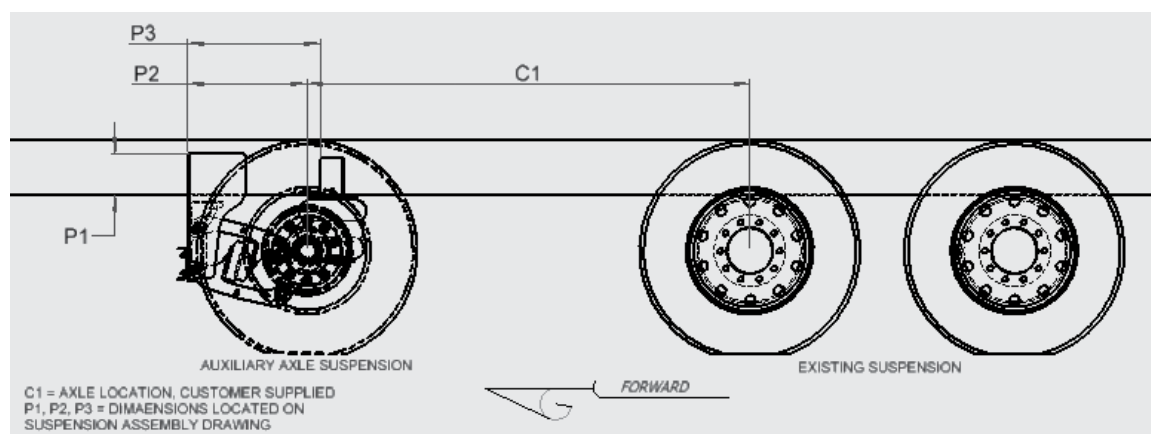

Figure 5. Suspension Mounting Position
4. Determine the location of the auxiliary axle mounting position on the outside of the vehicle frame rails. Refer to the suspension assembly drawing and mark the front edge of the auxiliary suspension side rails on the vehicle frame. (See Figure 5)
6. Before any modifications to the hanger are made, contact Engineering at (800) 660-2843. Refer to the suspension assembly drawing to verify that vehicle cross members and backing plates are positioned correctly for the intended axle location. (See Figure 5)